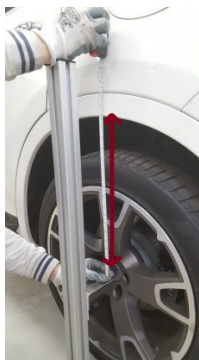

Figure 4: Measuring method of the Vehicle Height at each corner.
Measure the Vehicle Height at each corner. Perform the measurement as shown in Figure 4. Report the value in millimeters (mm) in Table 2 of Attachment C: Summary Table of the Vehicle Height at each corner.
- 5.2. Measure the vehicle height at each corner as shown in Figure 4.
6.3. Measure the vehicle height at the four corners (as shown in Figure 4), reporting the readings in the Table 1 of Attachment C: Summary Table of the vehicle heights of each vehicle corner.
7.2. Measure the vehicle height at each corner (as shown in Figure 4) reporting the values in the Table 1 of the Attachment C: Summary Table of the vehicle heights of each vehicle corner.